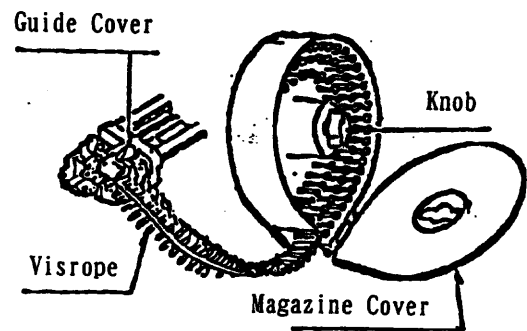
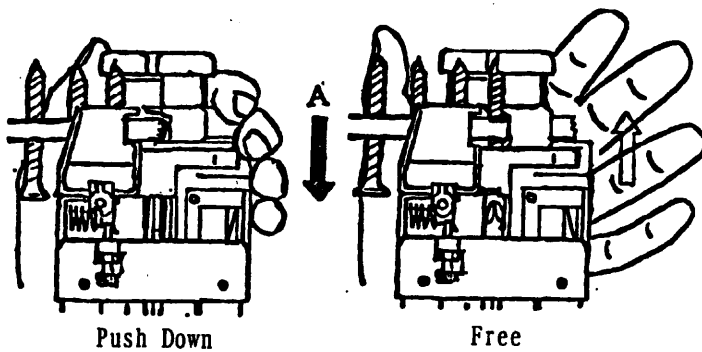
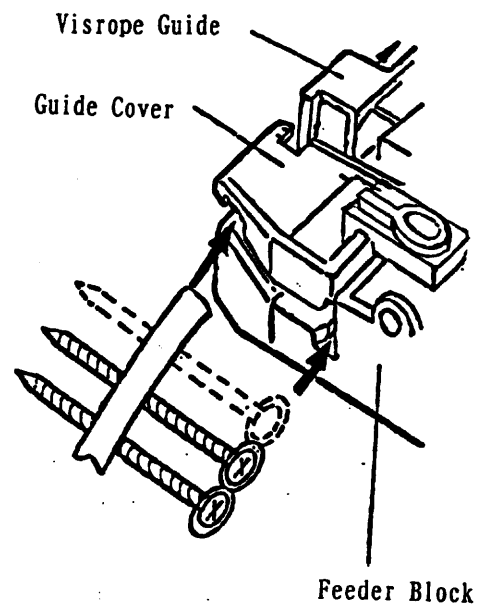

Fig. 3
Fig. 4
Fig. 5
- (e) Loading of screw coils :- Use only Muro designated screw coils called VISROPE. Place the VISROPE into the magazine with the screw heads facing upwards. (see fig.3) Push the first screws on the VISROPE out of the screw outlet and close the magazine cover. Insert the VISROPE tip into the slot between the feeder block and guide cover (see fig.5). Because the VISROPE stops one screw short of the bit center, the feeding mechanism must be activated to bring the first screw in line with the bit. To do this, the feeder block must be pushed about 30mm (1.18") in the 'A' direction, as illustrated in figure 4.